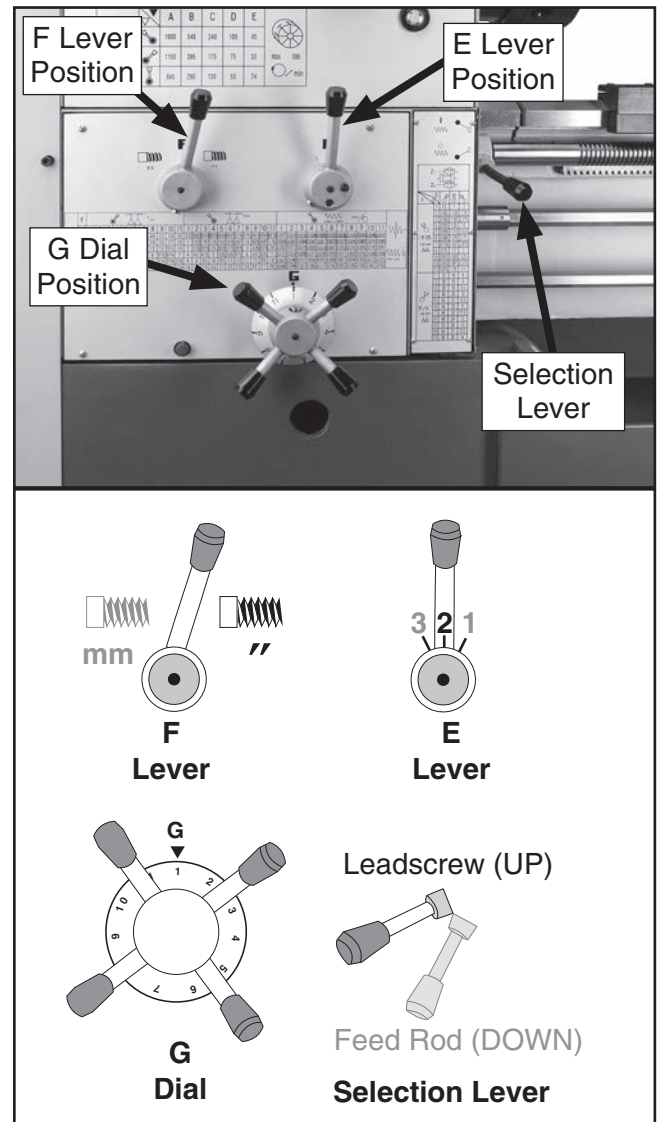

Figure 87. Lever and dial settings for 16TPI.
4. Position the gearbox levers and dials, as shown in **Figure 87**.